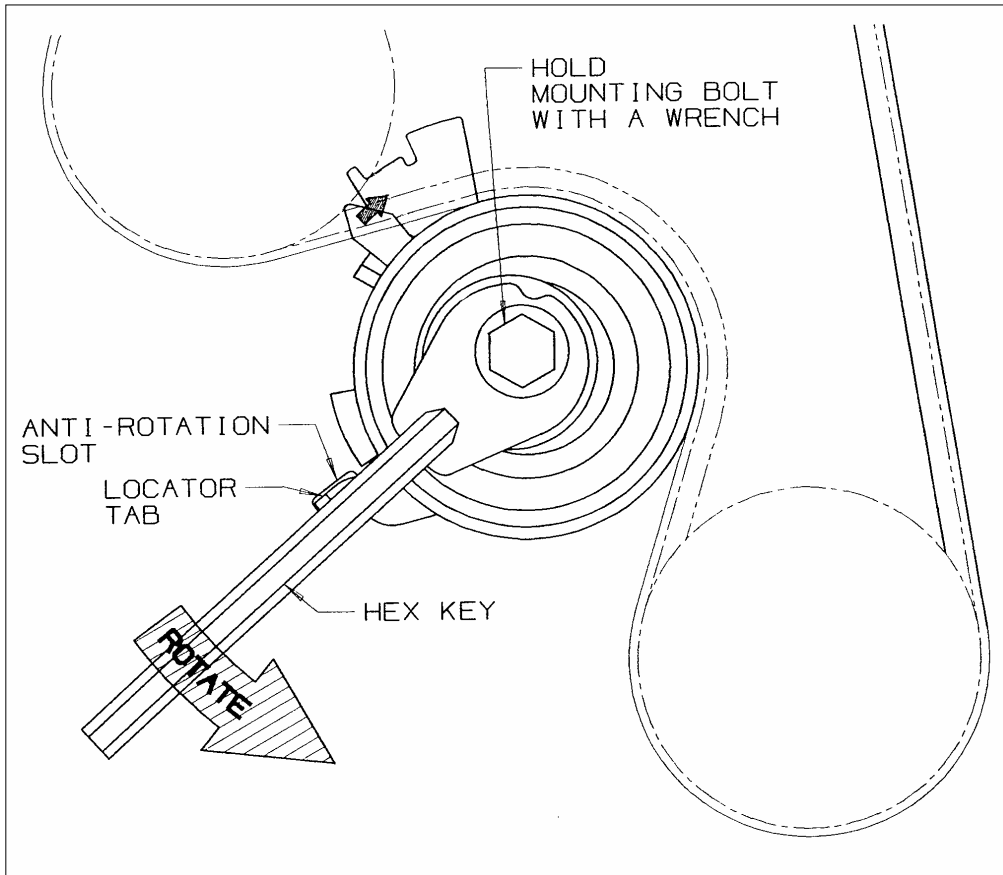

Figure 3: Adjustment of the Tensioner with the Hex Key
8. Rotate the Installation Shaft COUNTERCLOCKWISE with a Hex Key. Make sure to hold the mounting bolt with a Wrench in order to prevent it from turning when rotating the Installation Shaft. The Tensioner assembly will move against the belt and the Arm will eventually start to move CLOCKWISE (Figure 3).